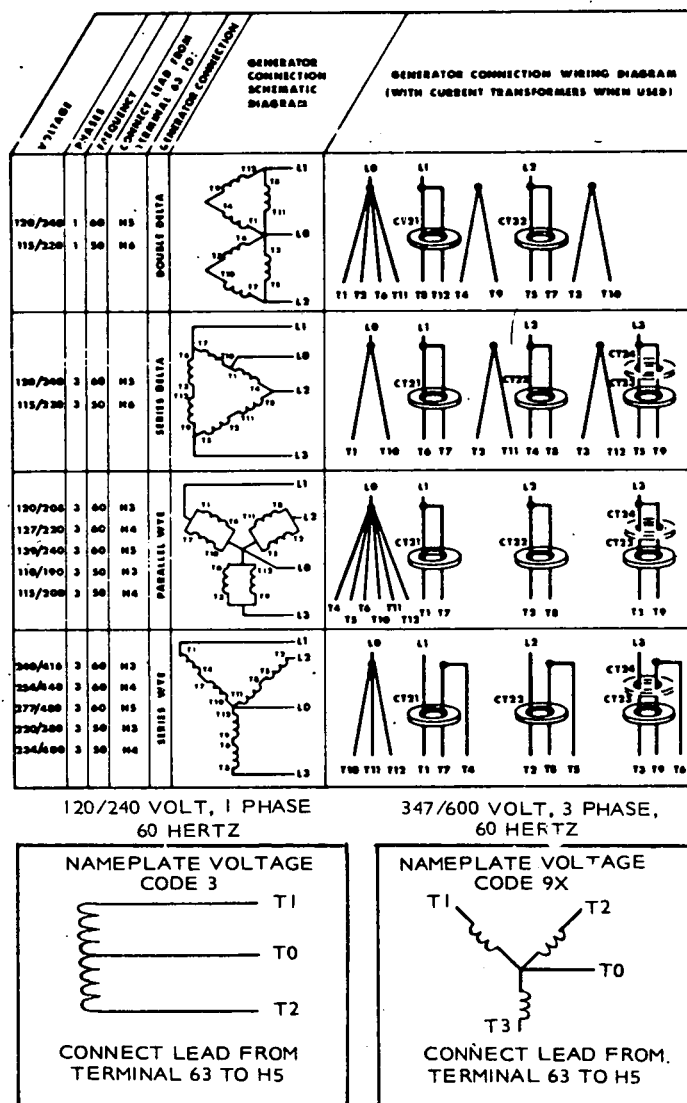

FIGURE 13. VOLTAGE CONNECTIONS
2. Connect wires together as shown on panel and in Figure 13 according to voltage desired.